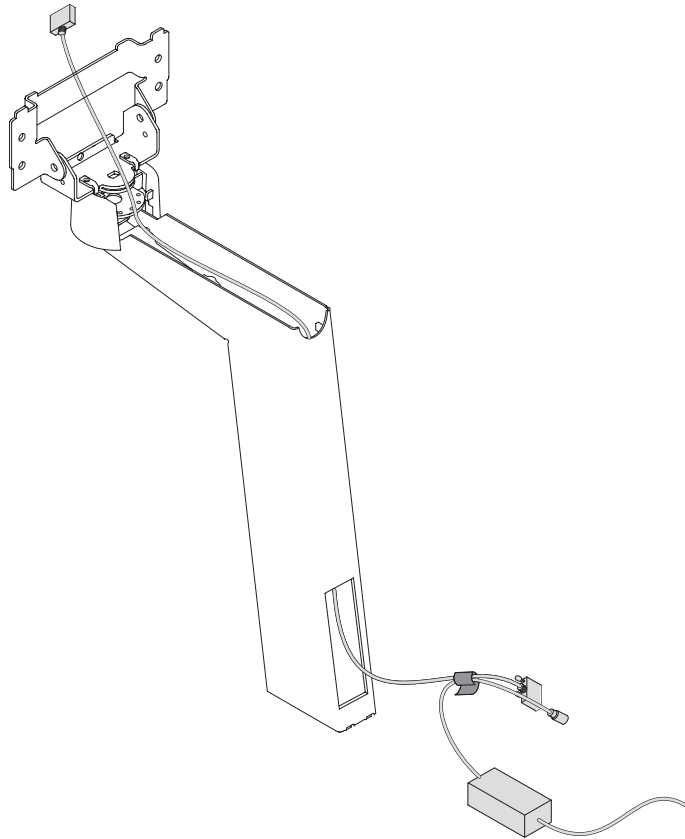

Figure 2-14. Using the velcro strip
3. As shown in Figure 2-14, use the velcro strip that is connected to the power cable and attach it to the video cable.